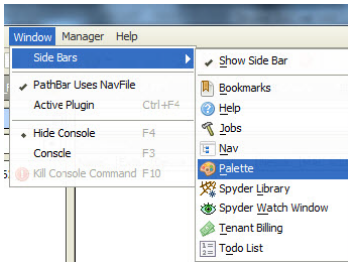

Fig. 22. Adding Palette
- Click on the 'Window' option in Menu bar; navigate to 'Palette' through sub menu of 'Side Bars'. (Refer to Figure 22).